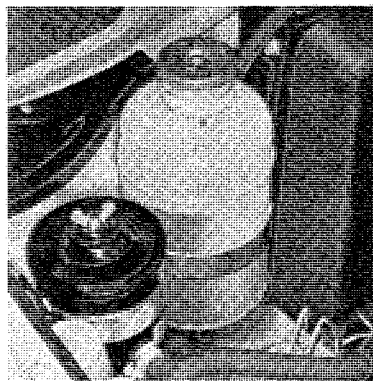

Fig. 1-15. Expansion tank
3. Check that the coolant level is between the "Max" and "Min" marks on the expansion tank (see Fig. 1-15).